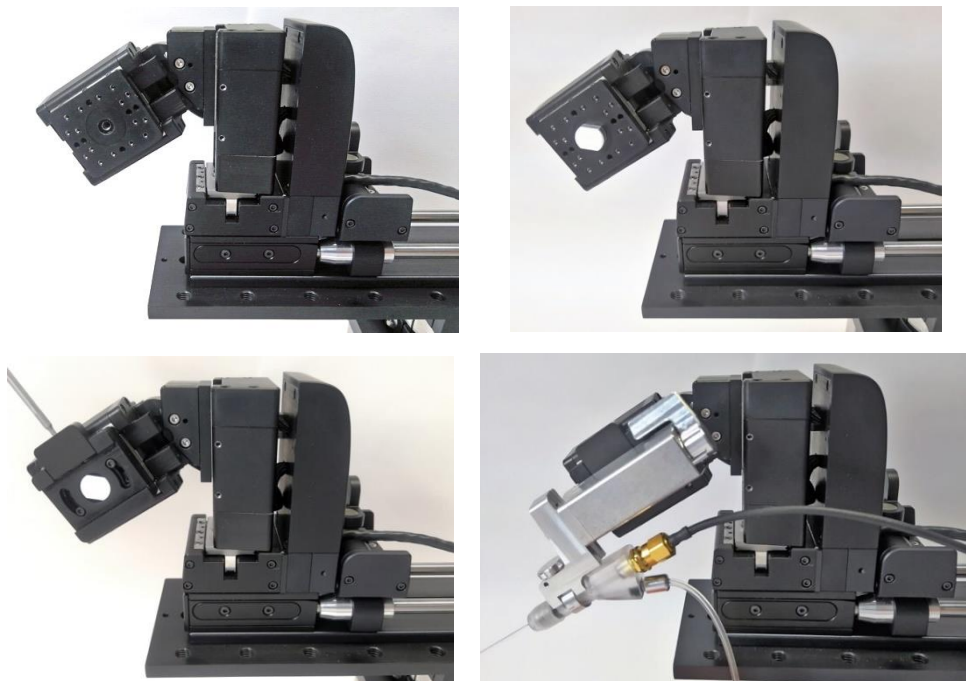

Figure 6. Installing, uMp-DVT and uMp-MPR adapters
1. The manipulator comes with shield plate attached on X-axis, which protects underlying mechanics and provides versatile options for attachments (Fig. 6, top left)
2. To attach uMp-DVT, first add axle of the adapter to shield plate. It supports angle adjustment of the attached head-stage or uMp-MPR in relation to the x-axis (Fig. 6, top right). Tighten gently without tools.
3. Add uMp-DVT adapter with two screws provided. Please note that screws should be placed in threads on opposite corners of the slots and in configuration that enable rotating uMp-DVT in right direction (Fig. 6 bottom left).
1. Loosen locking screw of the uMp-DVT dove tail adapter. Slide the uMp-MPR and tighten locking screw (Fig 6. bottom right).
3. Please use ring collar with uMp-MEH (Fig. 6, bottom right) and multipurpose front end in attaching other type of holders or rods.